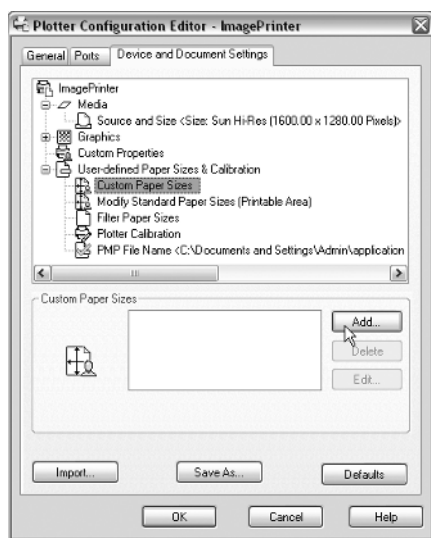

Figure 1.6 Configuring the plot driver
11. Select the Custom Paper Sizes node and click the Add button (Figure 1.6).